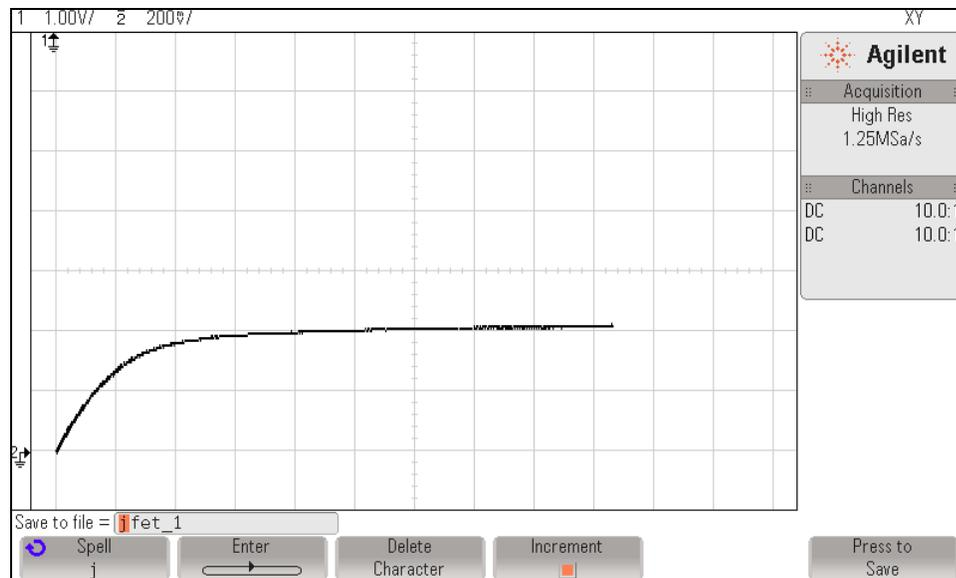

Figure 8. Curve for -1V Base Voltage.
- Adjust the position controls for Channels 1 and 2 so that the ground icons on the screen for Channels 1 and 2 ( $1\uparrow$  and  $2\uparrow$ ) align with the left vertical and bottom horizontal grid lines (see Figure 8). In XY mode, the position control for Channel 1 will move the waveform horizontally and the control for Channel 2 will move it vertically. The position controls are the knobs below the Channels 1 and 2 buttons (see Figure 7).
- Adjust the power supply so that  $V_{GS} = -1V$  (reverse the power supply leads to obtain a negative voltage). The display on the oscilloscope should be close to what is shown in Figure 8.